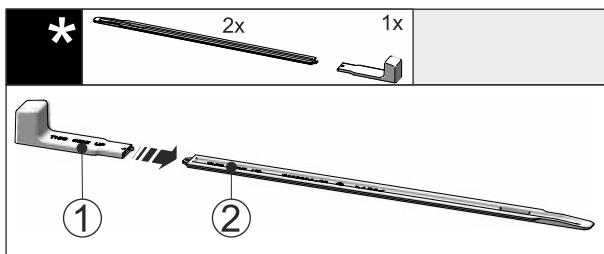

Fig. 50
- ▶ Insert the mounting handle *Fig. 50 (1)* into the leveling rail *Fig. 50 (2)*.